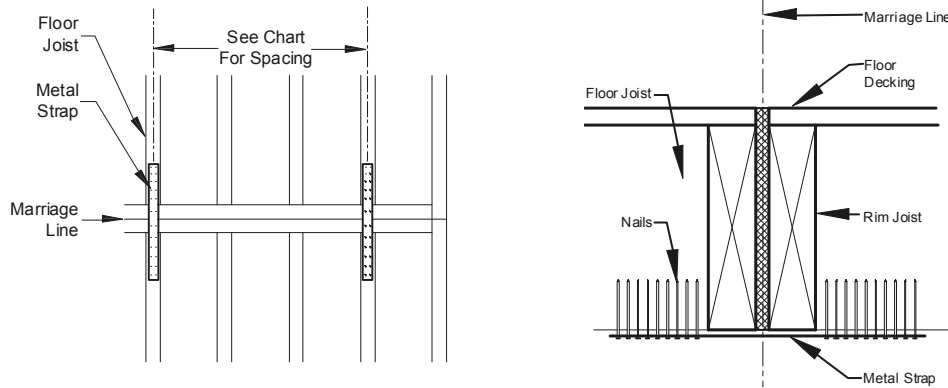

Figure 31. Metal strapping for Wind Zones II and III
- Optional - In Wind Zones II and III, fasten metal straps of minimum 26 gauge, 1-1/2" wide galvanized steel spaced per **Table 14** and fastened per **Table 15** to the underside of the floor joists (**Figure 31**). Select a strap length sufficient to hold the required fasteners.